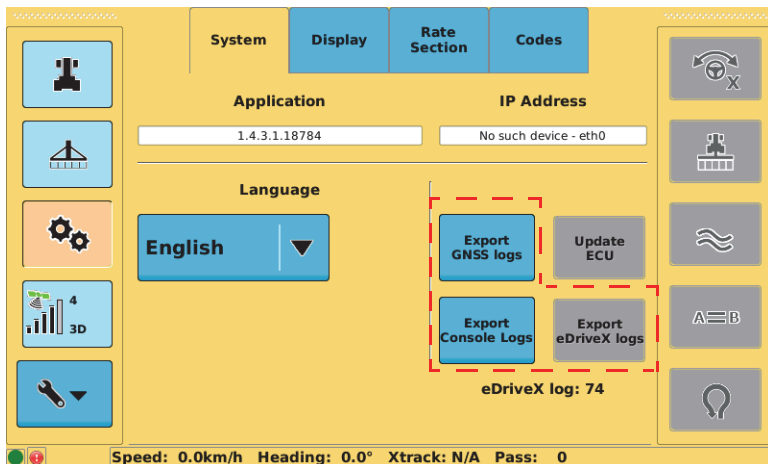

Figure 2-8: Export logs buttons—System (Tools) screen
1. Press the **Tools** screen button, and, if the System screen is not displayed, press the **System** tab. The System screen appears (see Figure 2-8 on page 30).
1. Press the **Tools** screen button, and if the System screen is not displayed, press the **System** tab. The System screen appears (see Figure 2-8 on page 30).